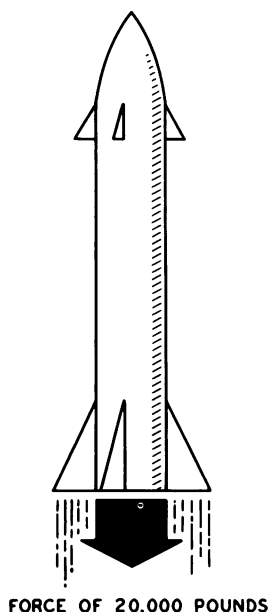

Figure 2D.
36. What is the correct term for the force that moves the missile shown in figure 2D?
37. Assume that the force shown in figure 2D is the result of the combustion of fuel in a rocket motor. What is the impulse rating of the motor if it is designed to produce that force for 10 seconds when it is mounted on a test stand?